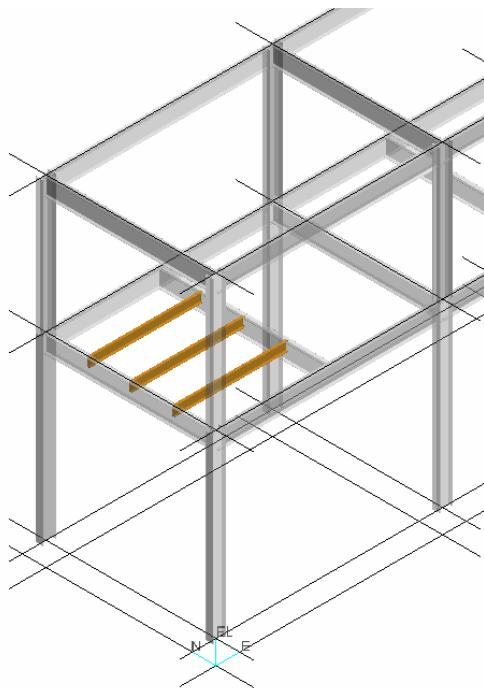

Figure 4 –Isometric View of the Structure Unit 2 System
- 22 Select the place framing member command. Use the view shown in Figure 4 to place the structural members.